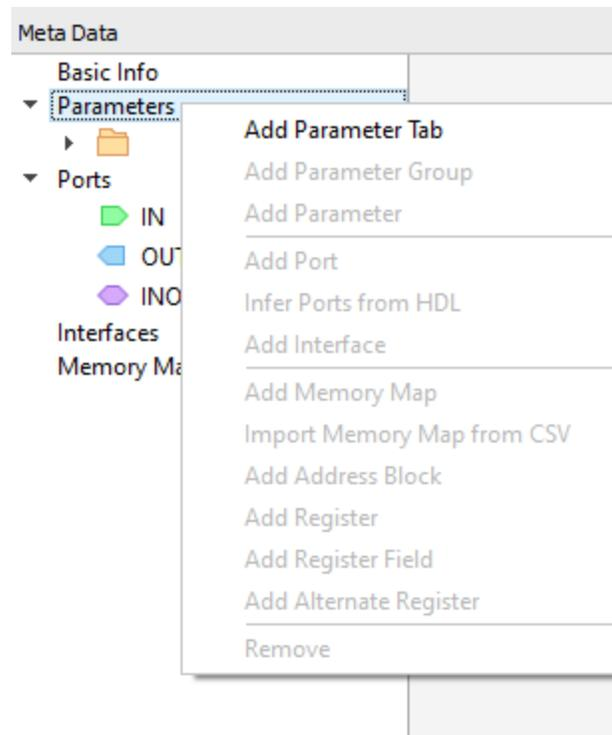

**Figure 3.8. Configure Basic Info**
- You can see the Basic Info properties in detail as shown in Figure 3.8.